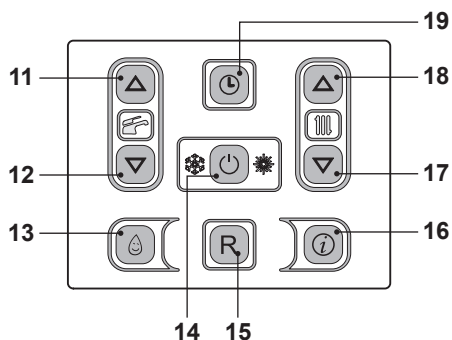
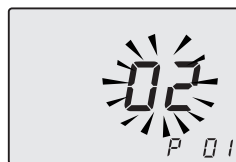
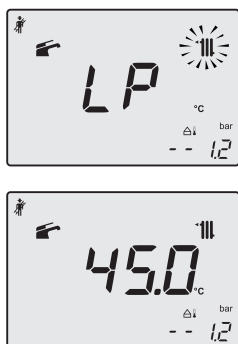
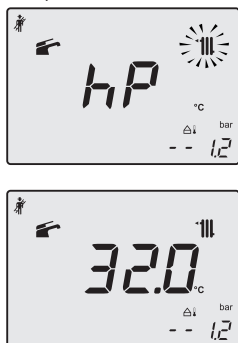

Fig. 9.19
Fig. 9.20
Fig. 9.21
Fig. 9.22
- Enter in "programming mode" by pressing keys 14 - 17 - 18 (Fig. 9.19) for 10 seconds at the same time until the letters **P01** are displayed on the LCD display, indicating that "parameter 01" (Fig. 9.20) has been activated.
- Press keys 17 and 18 (Fig. 9.19) at the same time until the LCD display displays the letters **LP** that alternate with the heating water temperature value (e.g. **45**), indicating the activation of the "chimney sweep function" at minimum output (Fig. 9.21).
- By pressing 18 (Fig. 9.19) it is possible to change power in chimney sweep mode: with the letters **hP** on the LCD display which alternate between the heated water temperature (i.e. **32**), we are in the "chimney sweep function" at the minimum power during heating (Fig. 9.22).
- Press keys 14 - 17 - 18 (Fig. 9.19) at the same time again to exit the "chimney sweep mode" and return to the previously set boiler status (Fig. 9.25).